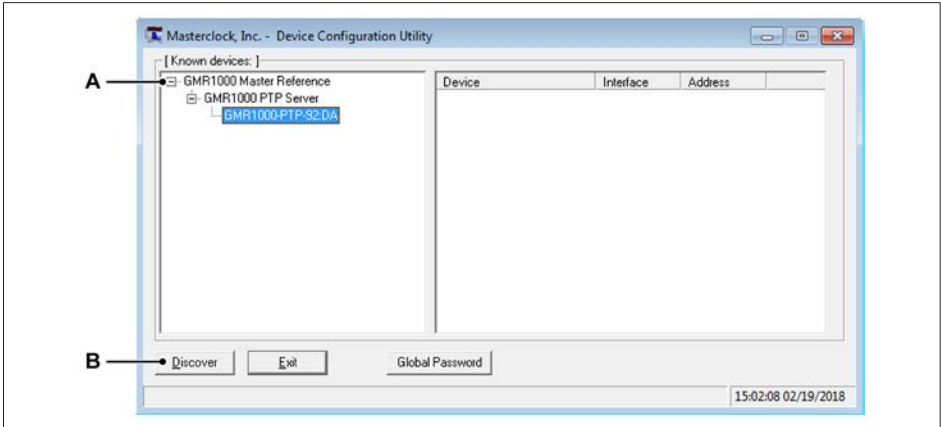

Fig. D.56 Device Configuration Utility tool - Detected devices
1. Start the WinDiscovery tool from Masterclock®, this will show the devices on the network (see Fig. D.56).